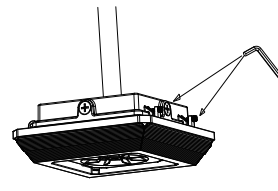

Figure 1-7
7. Lock the two cap screws, then installation is finished; Figure 1-7